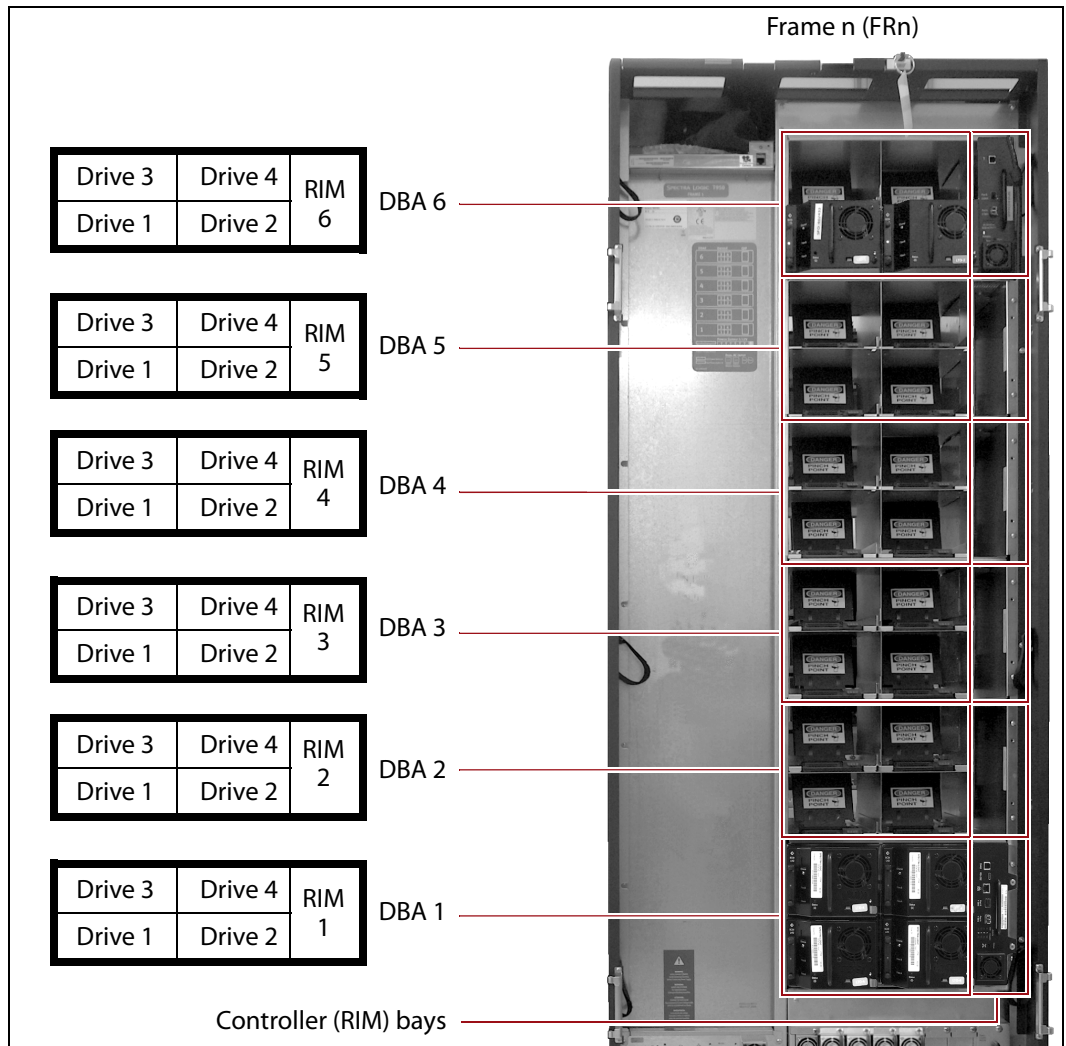

Figure 30 The relationship between the DBA, the component locations, and the identifiers in the BlueScale and XML interfaces (main frame with RIMs shown).
Figure 30 shows the relationship between the DBAs and the locations of the drives and controllers in the main frame.
- **DBAx** is the number of the DBA where the RIM or F-QIP is installed (see Figure 30 on page 66). The main frame and each drive expansion frame accommodates up to six DBAs.
The component identifier for each drive is based on its location relative to the frame and the DBA where it is installed, as viewed from the back of the library (see Figure 30 on page 66). The component identifier for a drive is shown as **FRx/DBAx/xTYPE-DRVx**, where: